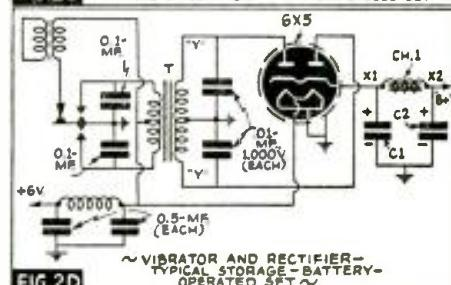

FIG. 2D ~ VIBRATOR AND RECTIFIER - TYPICAL STORAGE-BATTERY OPERATED SET ~
- (d) A Vibrator Power Pack, per Fig. 2D.